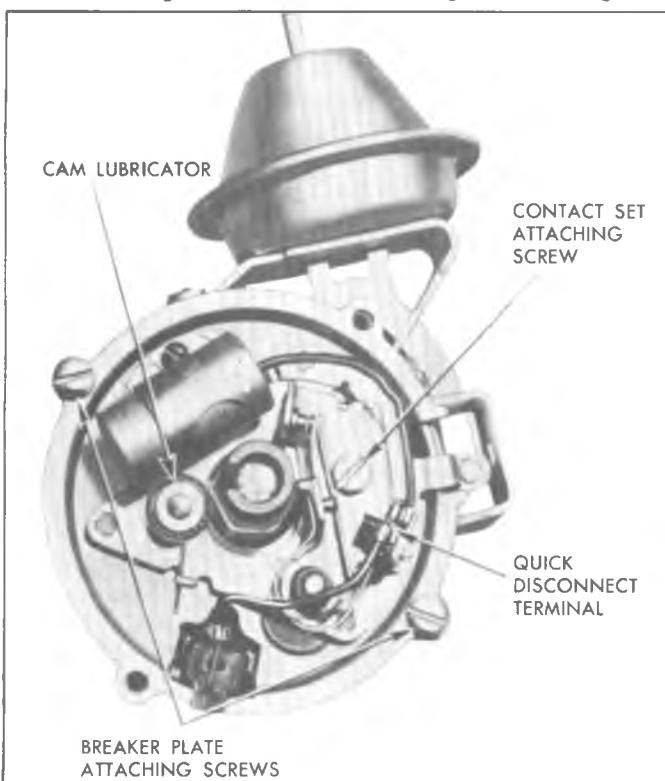

Fig. 13i—Breaker Plate and Attaching Parts
3. Pull primary and condenser lead wires from contact point quick disconnect terminal (fig. 13i).
Six Cylinder Engine Distributor (Fig. 13i)